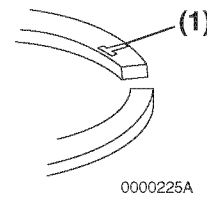

Figure 6-132
Note: Reinstall the top and second piston rings with the stamped “makers mark” (**Figure 6-132, (1)**) facing the top of the piston. The “makers mark” may vary in appearance but will always be located on the top surface of the piston ring adjacent to the piston ring gap. The oil ring and oil ring expander can be installed either side up.